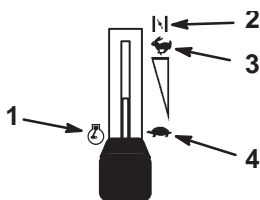

Figure 6
3. Move the throttle lever to Choke before starting a cold engine (Fig. 6).
5. After the engine starts, move the throttle lever to Fast (Fig. 6). If the engine stalls or hesitates, move the throttle lever back to Choke for a few seconds. Then move the throttle lever to the desired setting. Repeat this as required.
1. Move the throttle lever to Fast (Fig. 6).